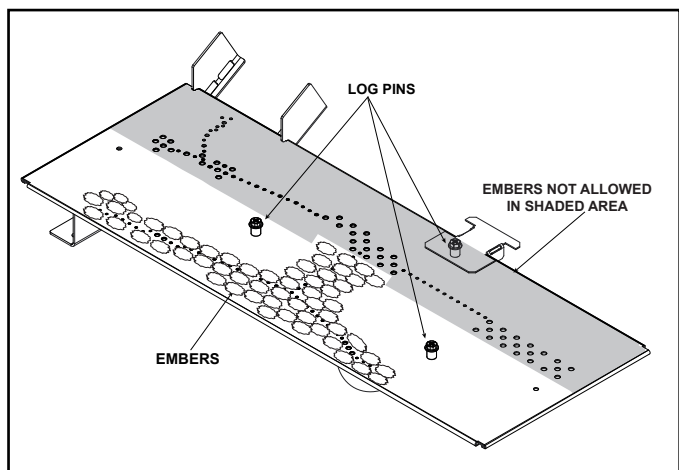
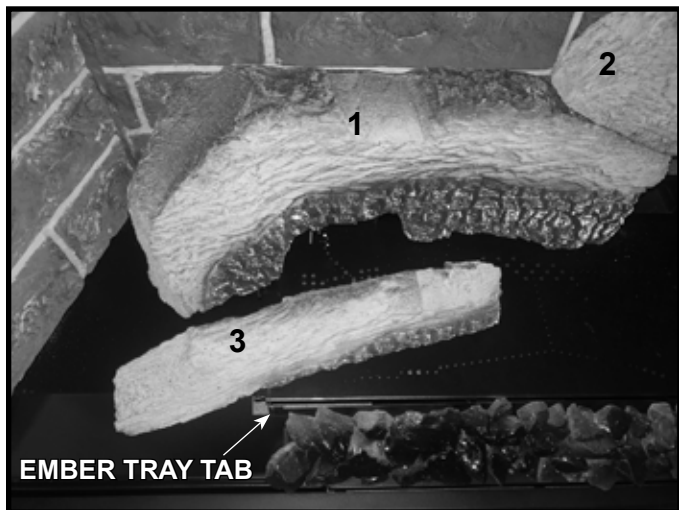
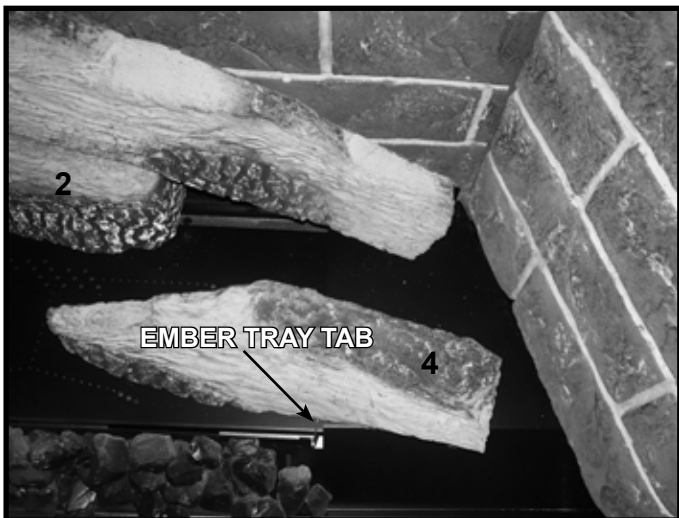

Figure 2 Log Pin and Glowing Ember Locations
Figure 5 Install Log #3
Figure 6 Install Log #4
1. **LOG #1:** Locate and install the Log #1 by installing the right end of the log over the rear log pin. See Figure 2 for log pin locations. Then rotate the left end of the log until it contacts the rear refractory panel. See Figure 3.
3. **LOG #3:** Locate and install Log #3 by installing the “right” end of the log over the left burner pin and pressing “down” to engage log pin. See Figure 2 for log pin locations. Rotate Log #3 counterclockwise until it contacts the ember tray tab as shown in Figure 5.
4. **LOG #4:** Locate and install the Log #4 by installing the “left” end of the log over the right log pin and pressing “down” to engage the log pin. See Figure 2 for log pin locations. The face of the log should contact the right ember tray tab. See Figure 6.
5. Locate the glowing embers and install them as shown in Figure 2. Do not install any glowing embers on the back row of burner ports. Glowing Embers can be placed directly over burner ports. However, for optimal front flame height place embers around burner ports.